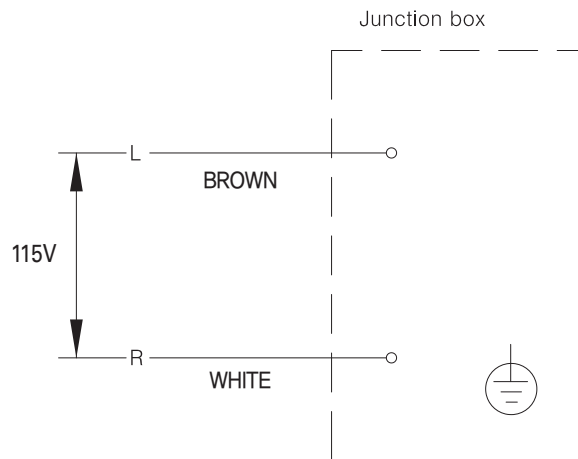

Fig 10
- Connect the wires (11) and (12) as shown in Fig 10.
[Fig 10]
- Refer to Fig 10 when connect wires.